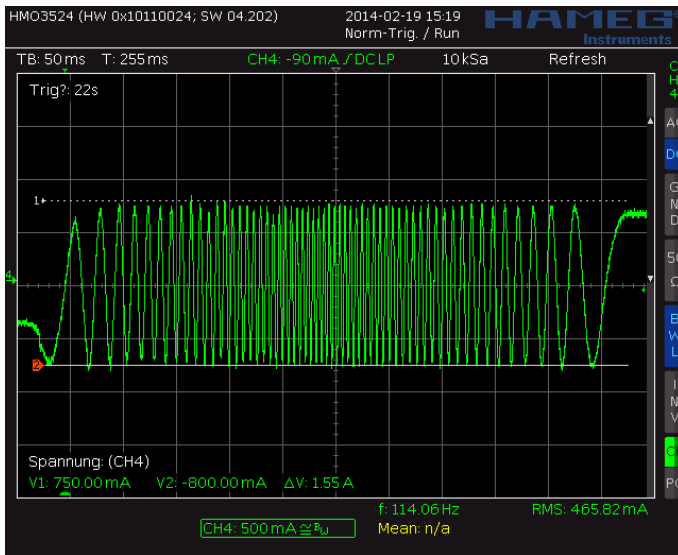
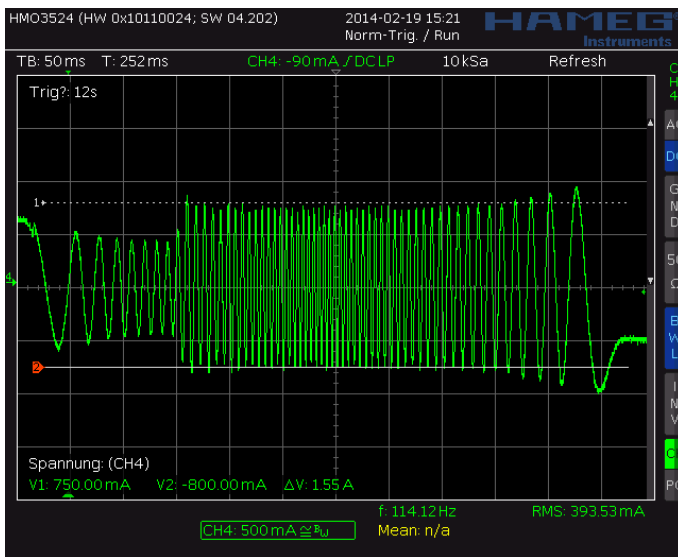
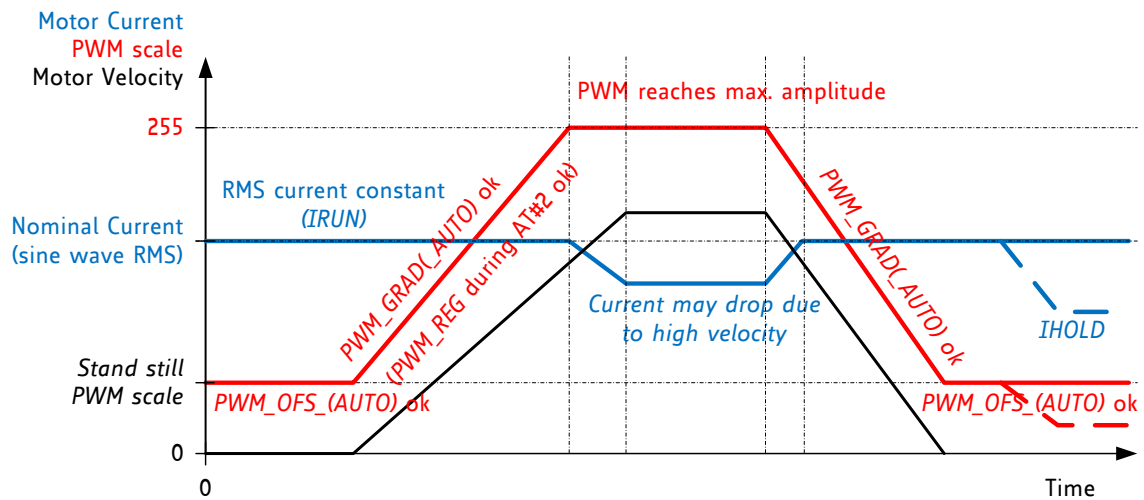

Figure 6.3 Scope shot: good setting for PWM_REG
Figure 6.4 Scope shot: too small setting for PWM_REG during AT#2
Figure 6.5 Successfully determined PWM_GRAD(AUTO) and PWM_OFS(AUTO)
In StealthChop voltage PWM mode, the autoscaling function ($pwm_autoscale = 1$, $pwm_auto_grad = 1$) regulates the motor current to the desired current setting. Automatic scaling is used as part of the automatic tuning process (AT), and for subsequent tracking of changes within the motor parameters. The driver measures the motor current during the chopper on time and uses a proportional regulator to regulate PWM_SCALE_AUTO in order match the motor current to the target current. PWM_REG is the proportionality coefficient for this regulator. Basically, the proportionality coefficient should be as small as possible in order to get a stable and soft regulation behavior, but it must be large enough to allow the driver to quickly react to changes caused by variation of the motor target current (e.g. change of VM). During initial tuning step AT#2, PWM_REG also compensates for the change of motor velocity. Therefore, a high acceleration during AT#2 will require a higher setting of PWM_REG . With careful selection of homing velocity and acceleration, a minimum setting of the regulation gradient often is sufficient ($PWM_REG=1$). PWM_REG setting should be optimized for the fastest required acceleration and deceleration ramp (compare Figure 6.3 and Figure 6.4). The quality of the setting PWM_REG in phase AT#2 and the finished automatic tuning procedure (or non-automatic settings for PWM_OFS and PWM_GRAD) can be examined when monitoring motor current during an acceleration phase Figure 6.5.